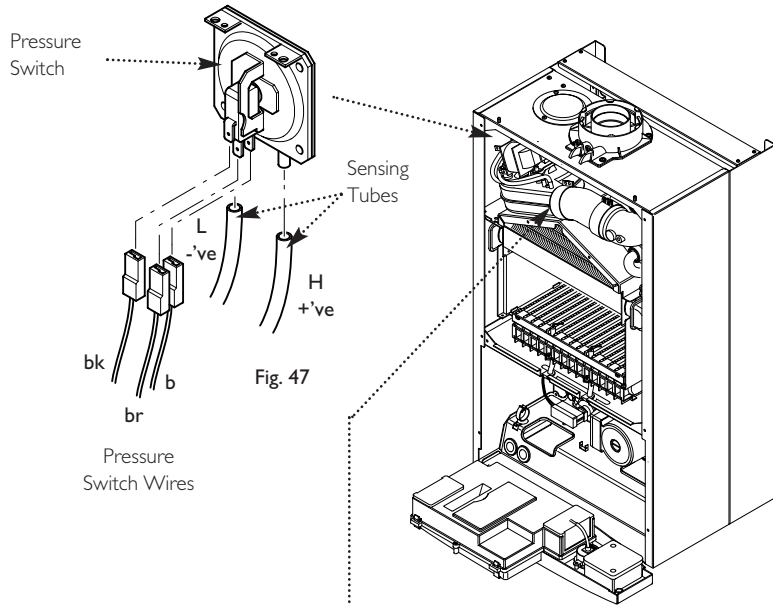

Fig. 47
2. Slacken the screws on the fan spigot outlet pipe clamps. Ease the clamps inwards over the pipe (105).
12.2 Pressure Switch (Fig. 47)